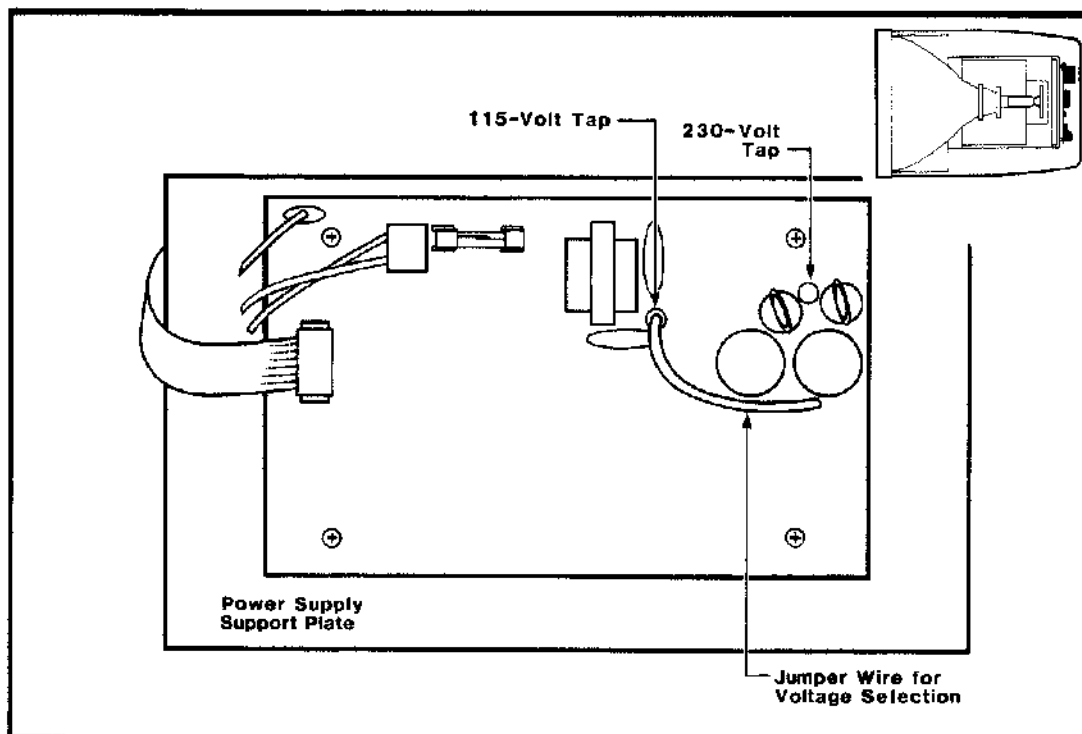

Figure 6-1: THE C-5 LINE VOLTAGE JUMPER
The line voltage of the C-5 is set by a jumper located on the power supply board. This jumper is attached to either the 115-volt connector pin or the 230-volt connector pin (see Figure 6-1). Before shipment, your C-5 was set for the line voltage available in your area. A label on the outside of the box specifies this setting. You can change the line voltage easily with the following procedure.
3. Locate the voltage jumper on the power supply board (see Figure 6-1).